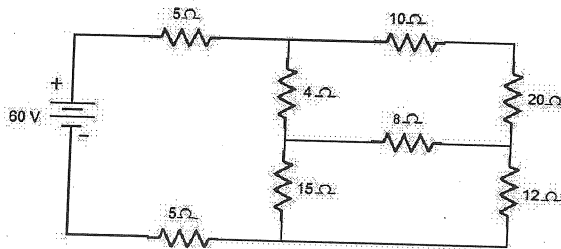

Fig.8
6. In the network shown in fig 8, find the current delivered by the battery.